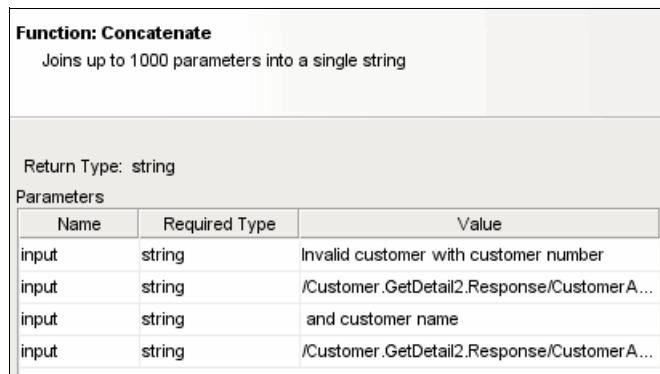

Figure 10-37 The else branch log message concatenate
- e. Double-click the **Concatenate** function, and build a meaningful message from the input fields by adding strings with text blocks and moving them to the right place. The definition shown in Figure 10-37 creates the following message: